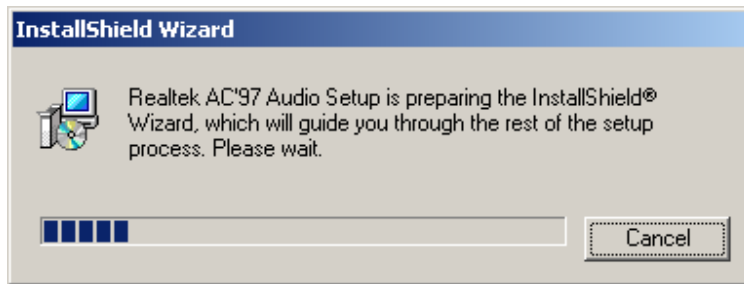

Figure 7-41: Preparing Setup Screen
Step 8: The **InstallShield Wizard** is prepared to guide the user through the rest of the process (**Figure 7-41**).